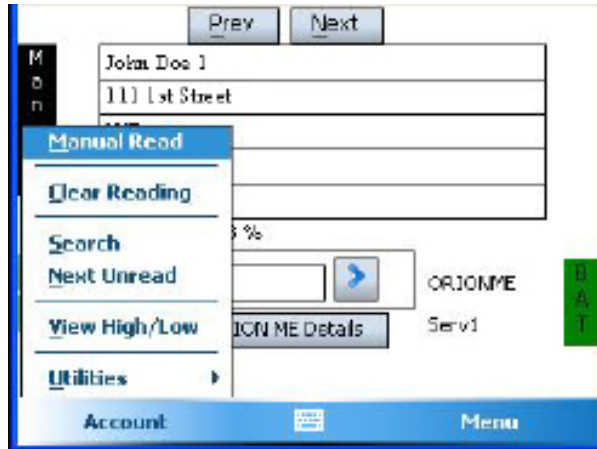

Figure 15: Account Menu
- Account** Displays a popup menu with options for the selected account (Figure 15). Some of the same options can be accessed using the Hot Keys on the keyboard. Refer to "Hot Keys and Quick Keys" on page 62 for additional information.